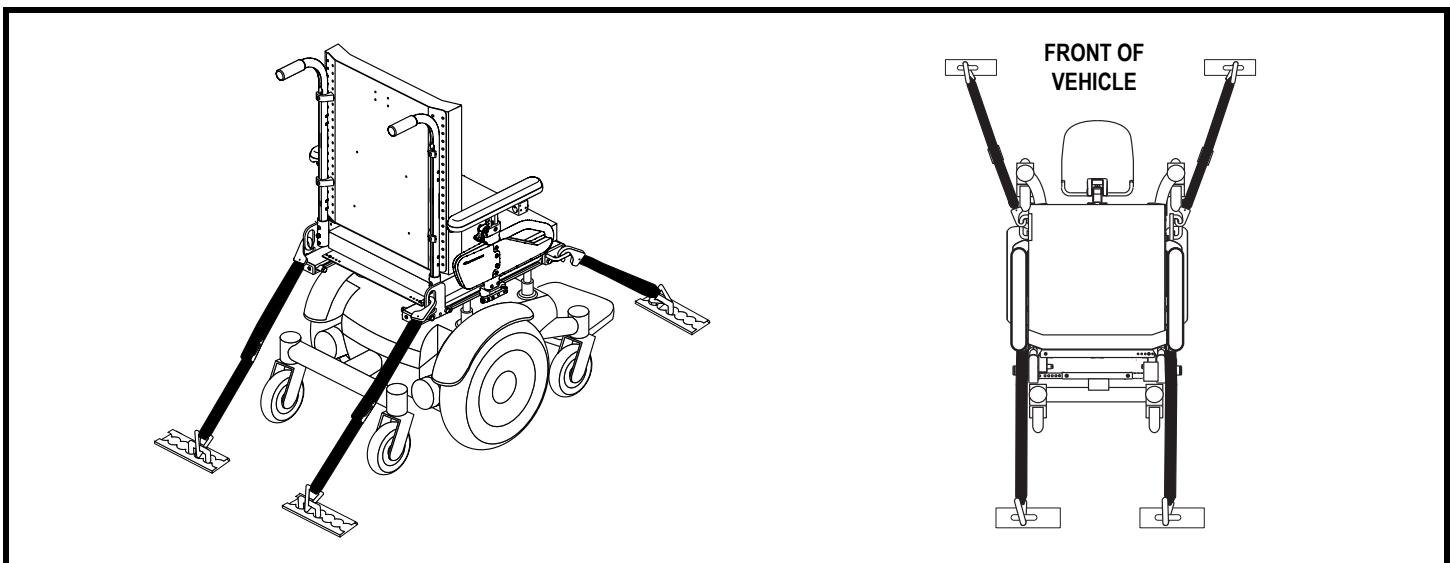

Figure 9. Unoccupied Transit System Securement Points
- Position the anchor points for the rear tie-down straps directly behind the rear securement points on the power chair. The front tie-down straps should be anchored to floor points that are spaced wider than the power chair to provide increased stability. See figure 9.